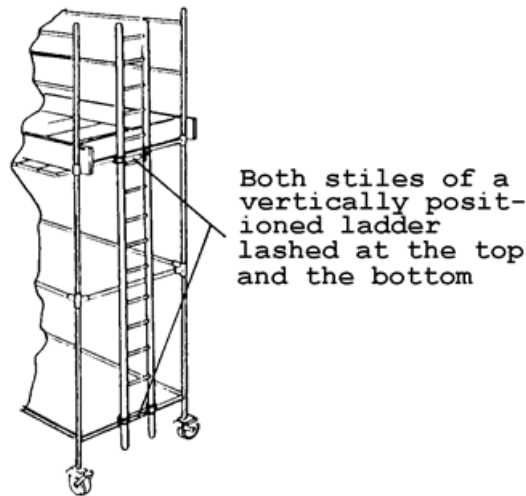

FIG 31.
- Lash the top and bottom of the ladder if it is to stand vertically against a structure. (Fig 31)